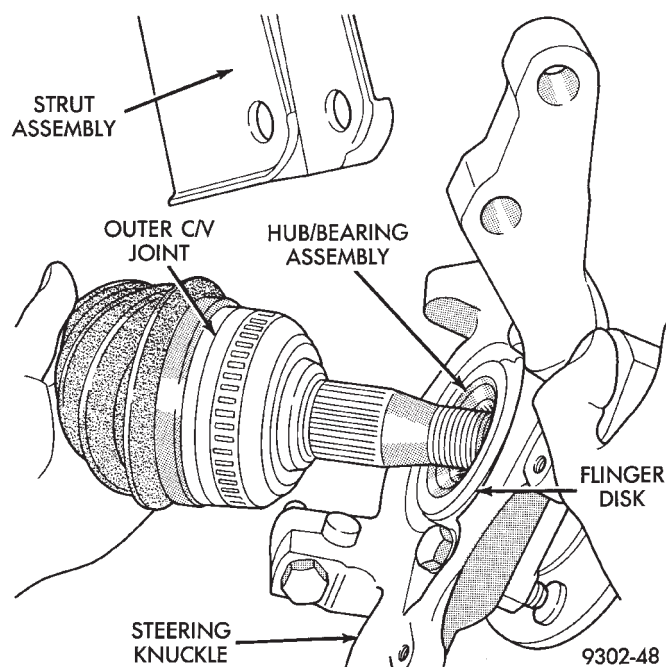

Fig. 15 Outer C/V Joint Installation Into Hub and Bearing
(5) Hold outer C/V joint assembly with one hand. Grasp steering knuckle with other hand and rotate it out and to the rear of the vehicle. Install outer C/V joint into the hub and bearing assembly (Fig. 15).